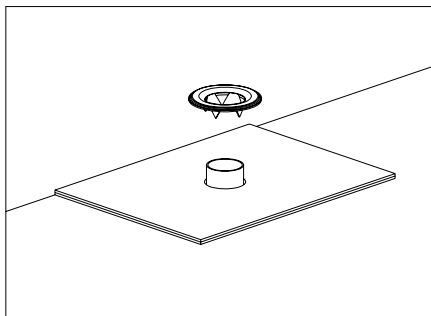

Figure 3
- Place a grommet up through the drilled hole and place the washer over the grommet (see Figure 3).